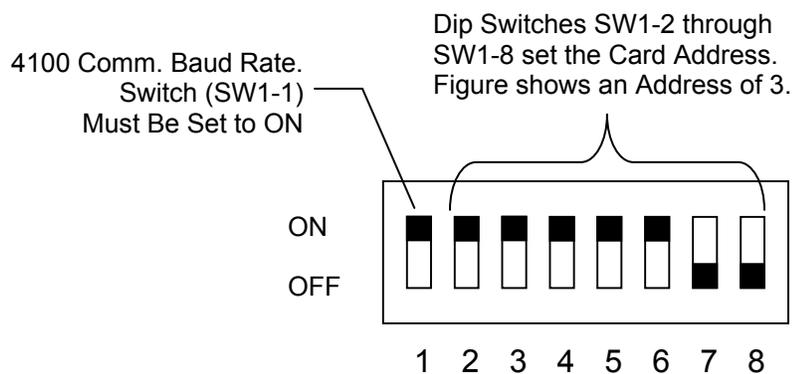

Figure 3. DIP Switch SW1
The device address is set via DIP switch SW1, which is a bank of eight switches. From left to right (see Figure 3, below) these switches are designated as SW1-1 through SW1-8. The function of these switches is as follows:
- Loop wires once through the supplied ferrite bead(s) as shown in Figure 3.